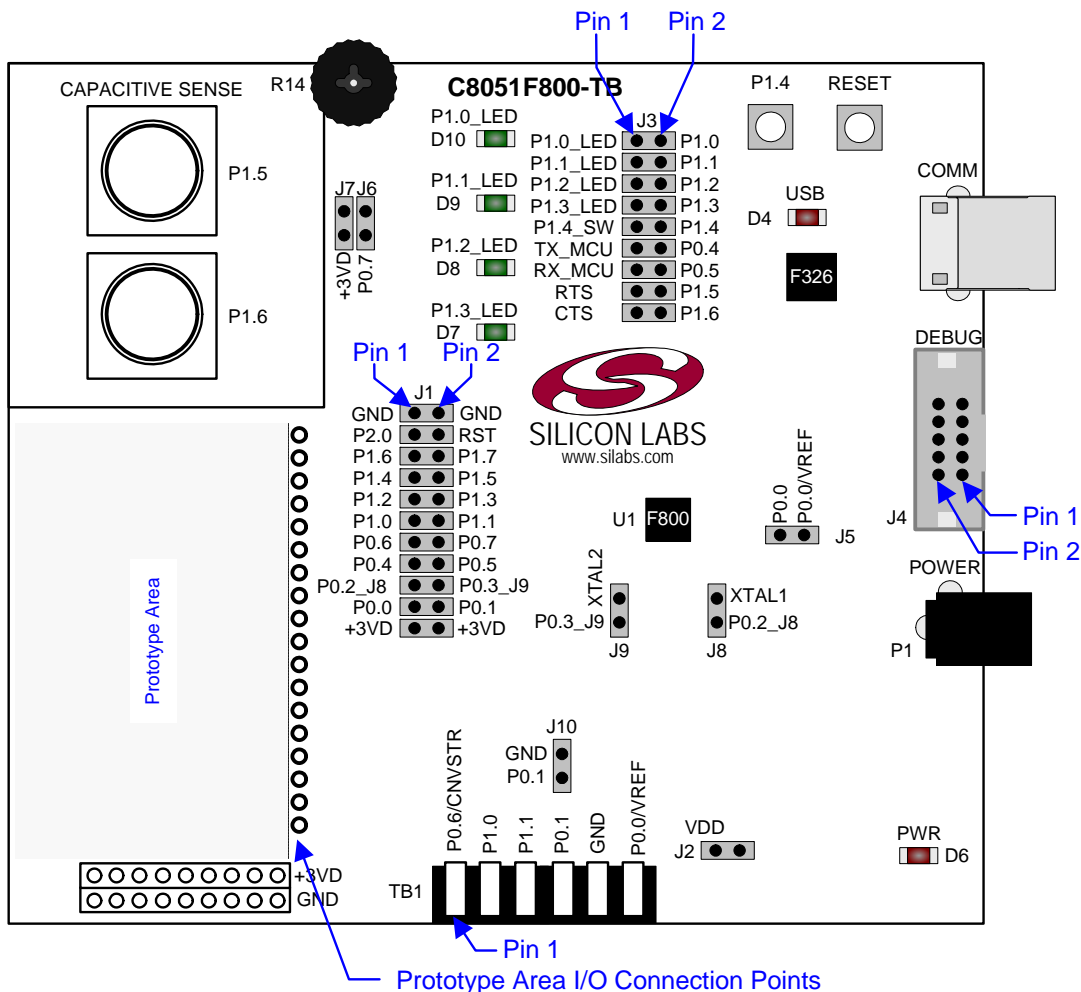
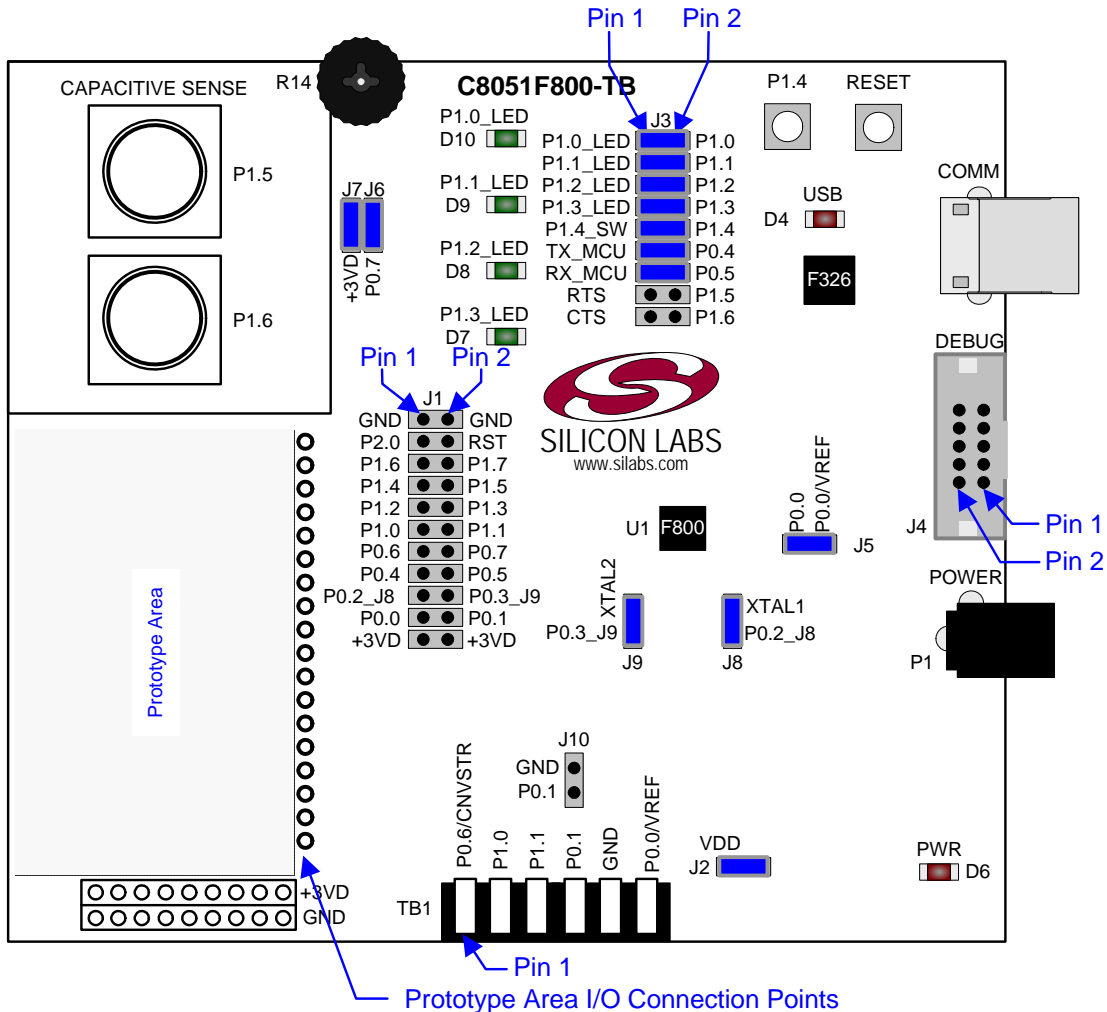

Figure 3. C8051F800 Target Board with Pin Numbers
Figure 4. C8051F800 Target Board Shorting Blocks: Factory Defaults
3. Verify that shorting blocks are installed on the target board as shown in Figure 4 on page 8.
The C8051F800 Development Kit includes a target board with a C8051F800-GM device pre-installed for evaluation and preliminary software development. Numerous input/output (I/O) connections are provided to facilitate prototyping using the target board. Refer to Figure 3 for the locations of the various I/O connectors. Figure 4 on page 8 shows the factory default shorting block positions. A summary of the signal names and headers is provided in Table 5 on page 13.
The C8051F800 Target Board comes from the factory with pre-installed shorting blocks on many headers. Figure 4 shows the positions of the factory default shorting blocks. It should be noted that a shorting block on J2 to connect power to the MCU is required for normal operation.